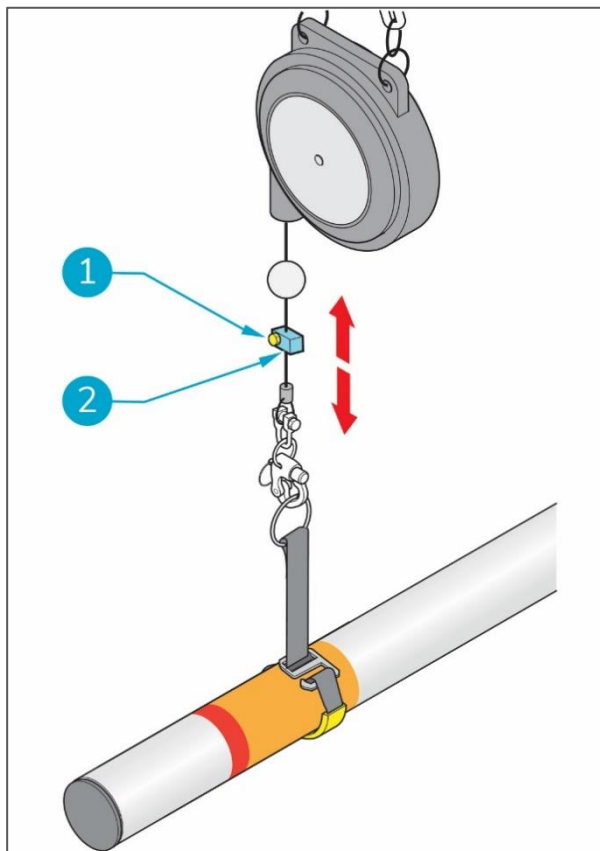

Figure 9
- Loosen the screw (Figure 9, pos. 1) on the cable blocker (Figure 9, pos. 2).